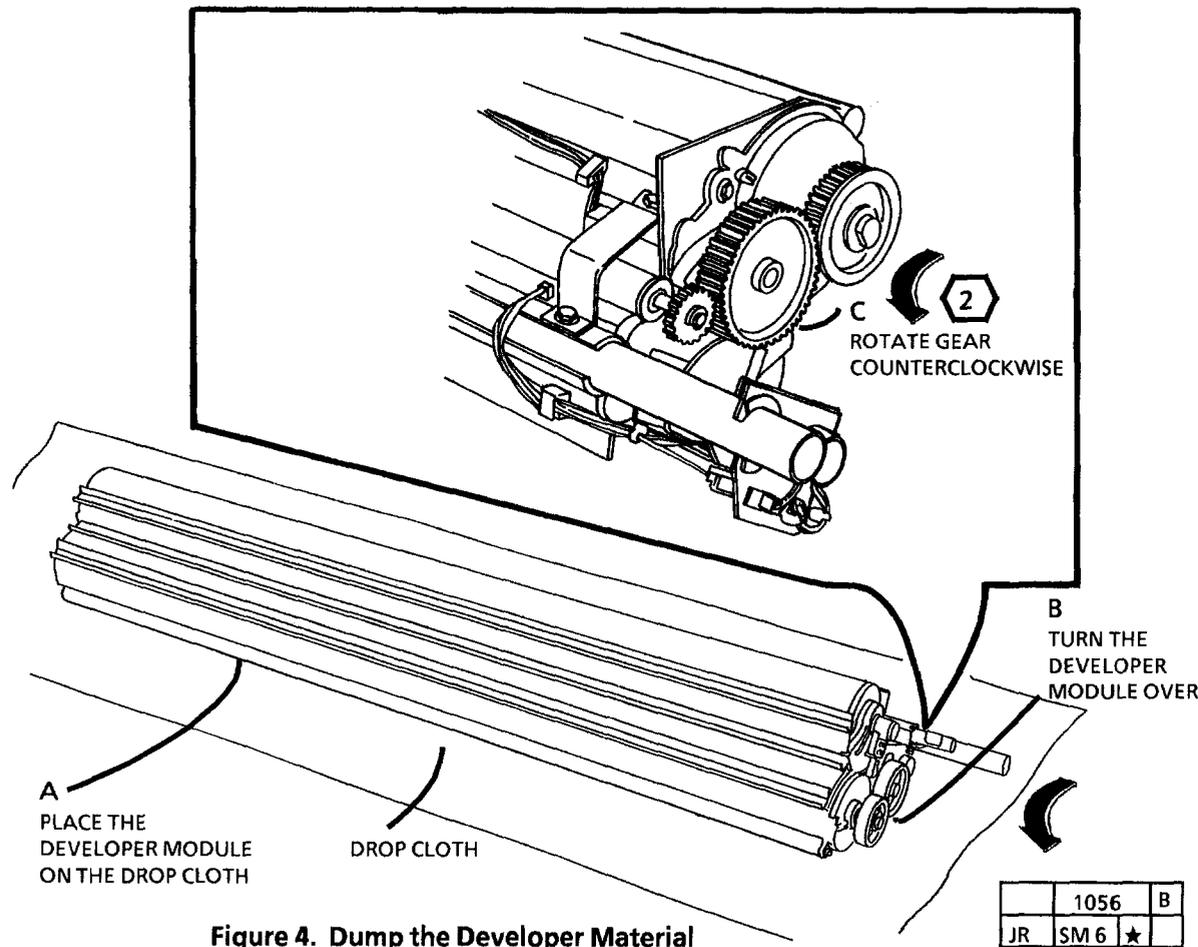

Figure 4. Dump the Developer Material
10. (FIGURE 4): DUMP THE DEVELOPER MATERIAL.